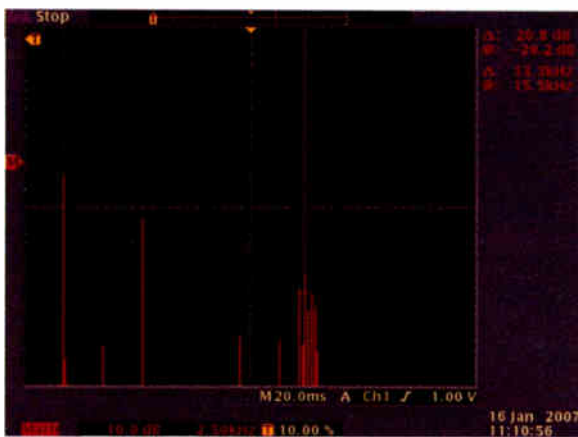

Figure 4
Therefore, we can see how a conventional method of clipping creates systemic problems, occurring as aliasing products within the encoder. **Figure 4** is an example of what happens to a 2 kHz tone when:
**Figure 4** is what exaggerates coding artifacts when conventional style processing is applied to coded audio.